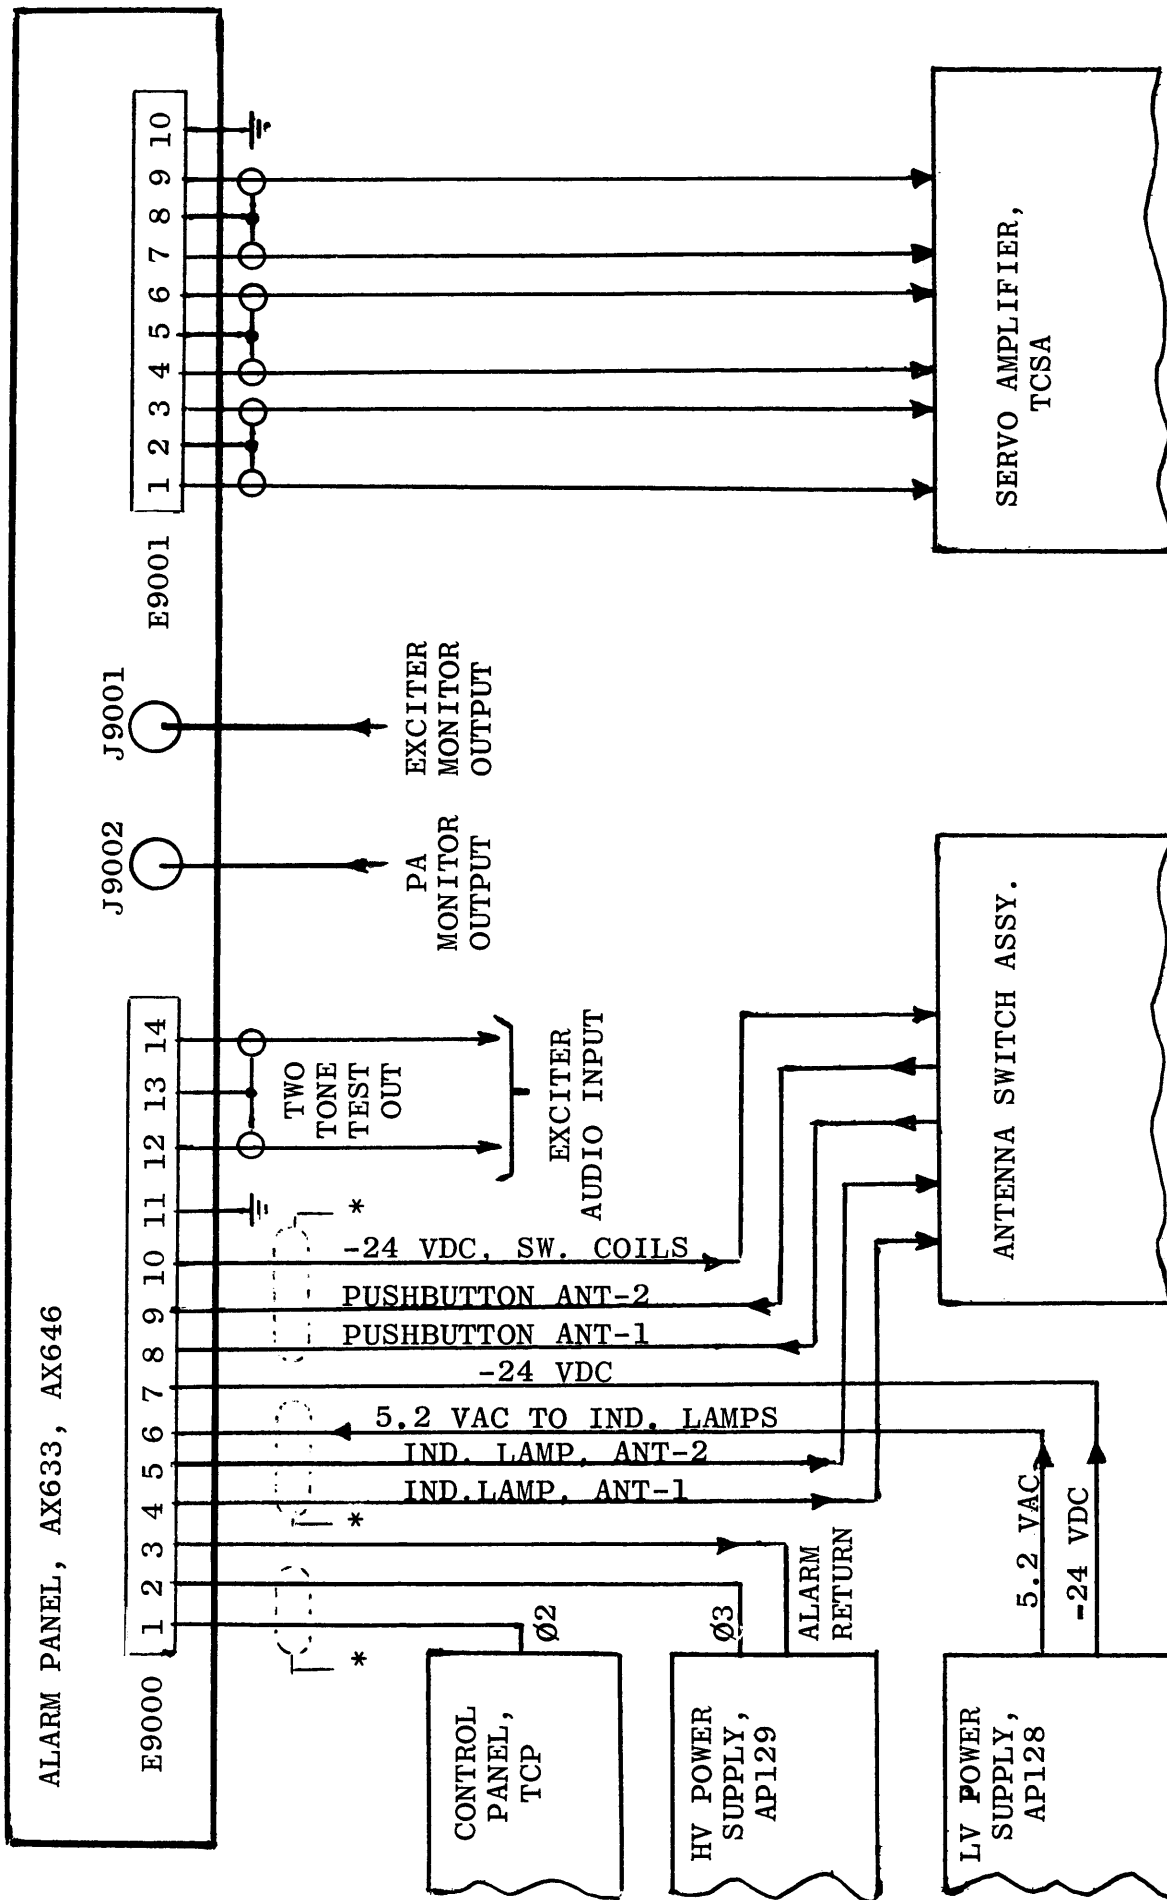

Figure 2-1. Typical Interconnection Diagram
- b. INTERCONNECTIONS - All necessary interconnections are made at the rear-chassis mounted terminal boards E9000, E9001, connectors J9001 and J9002. See figure 2-1 for typical interconnection details.